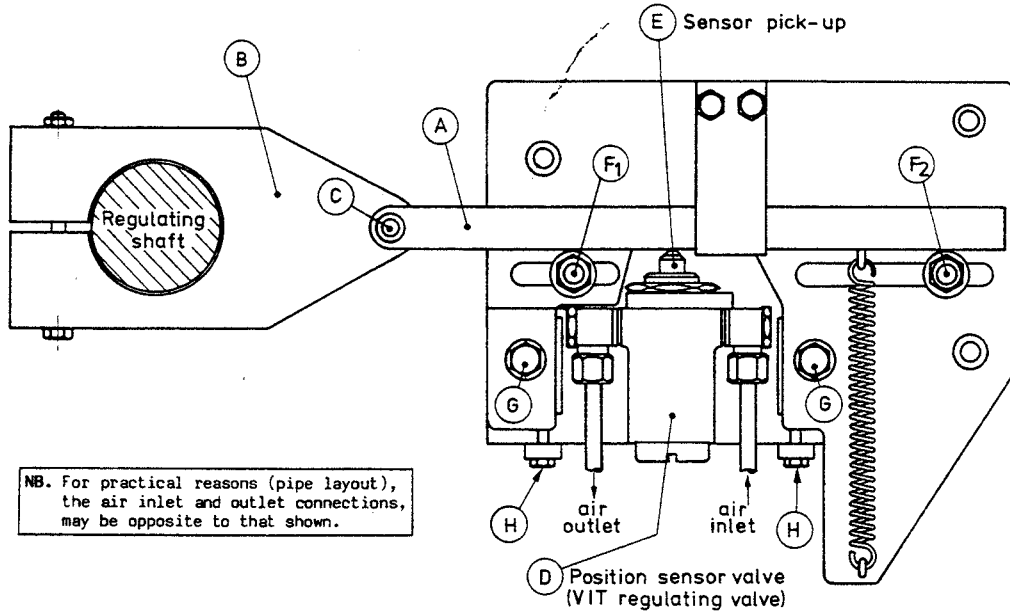

Fig. 2 - COLLECTIVE ADJUSTMENT AT POSITION SENSOR UNIT ON THE EMERGENCY STAND
Referring to the position sensor unit on the emergency stand, figs. 2 and 3.
Changed fuel quality: if a fuel is bunkered, having essentially different combustion characteristics, p_{max} might change. In such a case, in order to maintain low SFOC, or to avoid running the engine with too high combustion pressure, the injection timing should be changed. This is done by loosening the bolts (G) (Fig. 2) and turning the adjustment-screws (H), such that the location of the sensor (D), relative to the beam (A), changes in the desired direction. This operation, which can be done while the engine is running, changes the control pressure level, thereby causing all fuel pumps to be advanced (= higher p_{max}) or retarded. See also Fig. 7.
- 5) Re-start the engine and run up to the break-point. Referring to Fig. 2, loosen the arm (B) and retighten it in such a position that the beam (A) touches the two supports (F_1) and (F_2).